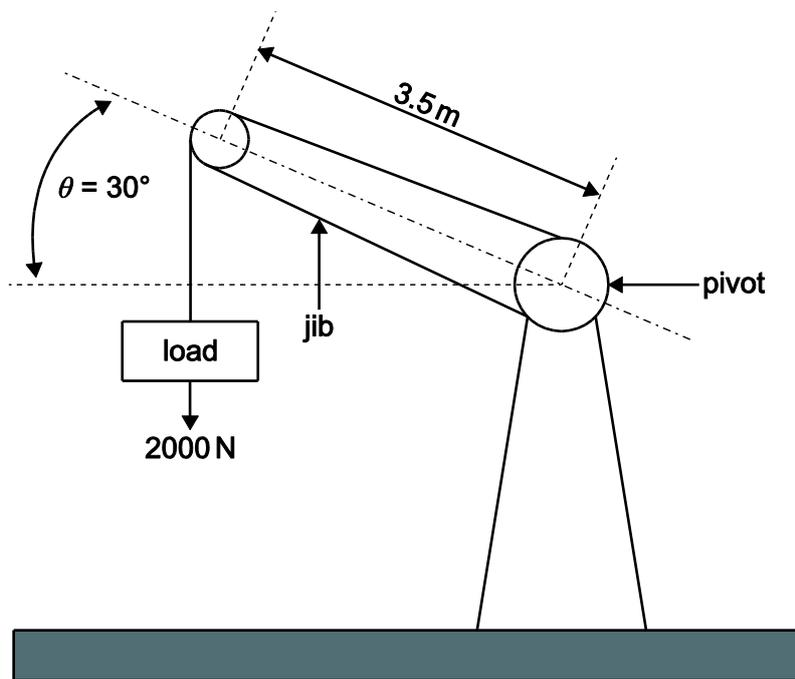

Fig. 6
- 4 Fig. 6 shows a small crane lifting a load of 2000 N with the jib of length 3.5 m inclined at an angle of $\theta = 30^\circ$ to the horizontal.